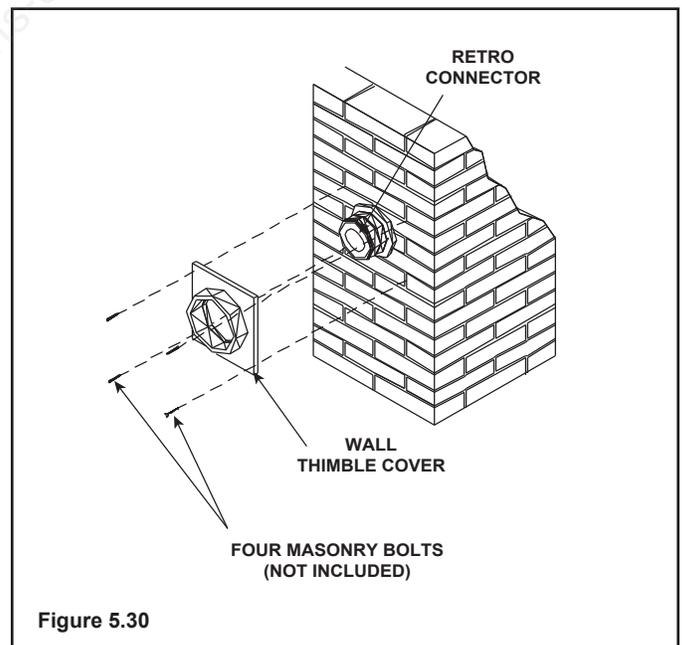

Figure 5.30
- Slide wall thimble cover over retro connector and secure with masonry bolts (Figure 5.30). If you have a framed wall in front of the masonry, use wood screws to mount wall thimble cover to framed wall, over retro connector and 10 in. (254 mm) square framed opening (Figure 5.25, page 22). If needed, add a section of direct vent pipe to the retro connector in order to extend through the opening in the wall thimble cover.